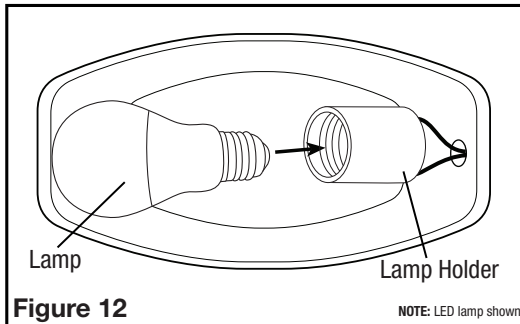
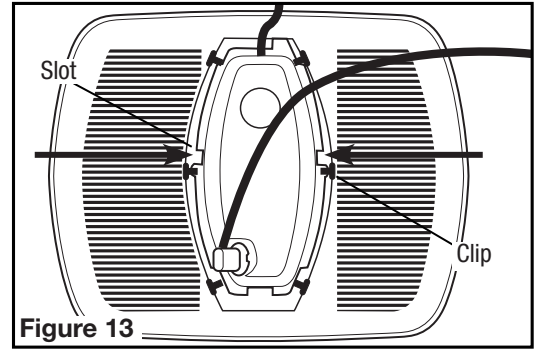

Figure 12
Figure 13
4. Install the included lamp into the E26 (screw base) lamp holder (**Figure 12**).
5. Install the reflector onto the grill by placing the slots on the side of the reflector over the lens clips near the center of the grill. While squeezing the middle of the reflector, slide it so that the plastic notches rest under the lens clips and the reflector feels secure (**Figure 13**).
3. **Changing the Lamp:** Disconnect power to the unit. Remove grill by pulling downward on grill and squeezing grill springs together to release from housing (**Figure 13**). Remove Reflector from grill by sliding the reflector notches from beneath the lens clips on grill. (**Figure 12**).